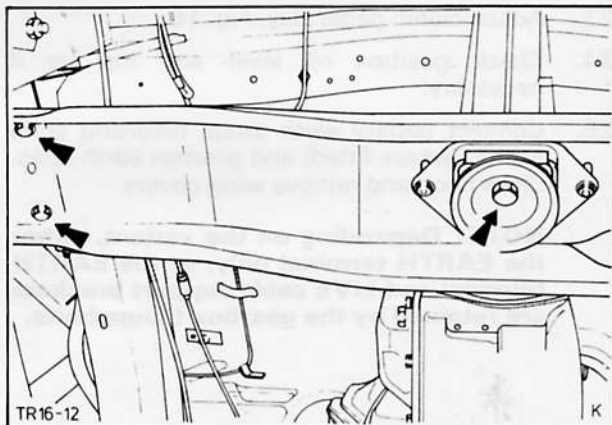

Fig. 13. Gearbox cross-member secured to floor pan
15. Attach gearbox cross member to gearbox and floor pan and tighten bolts to specified torque, Fig. 13.